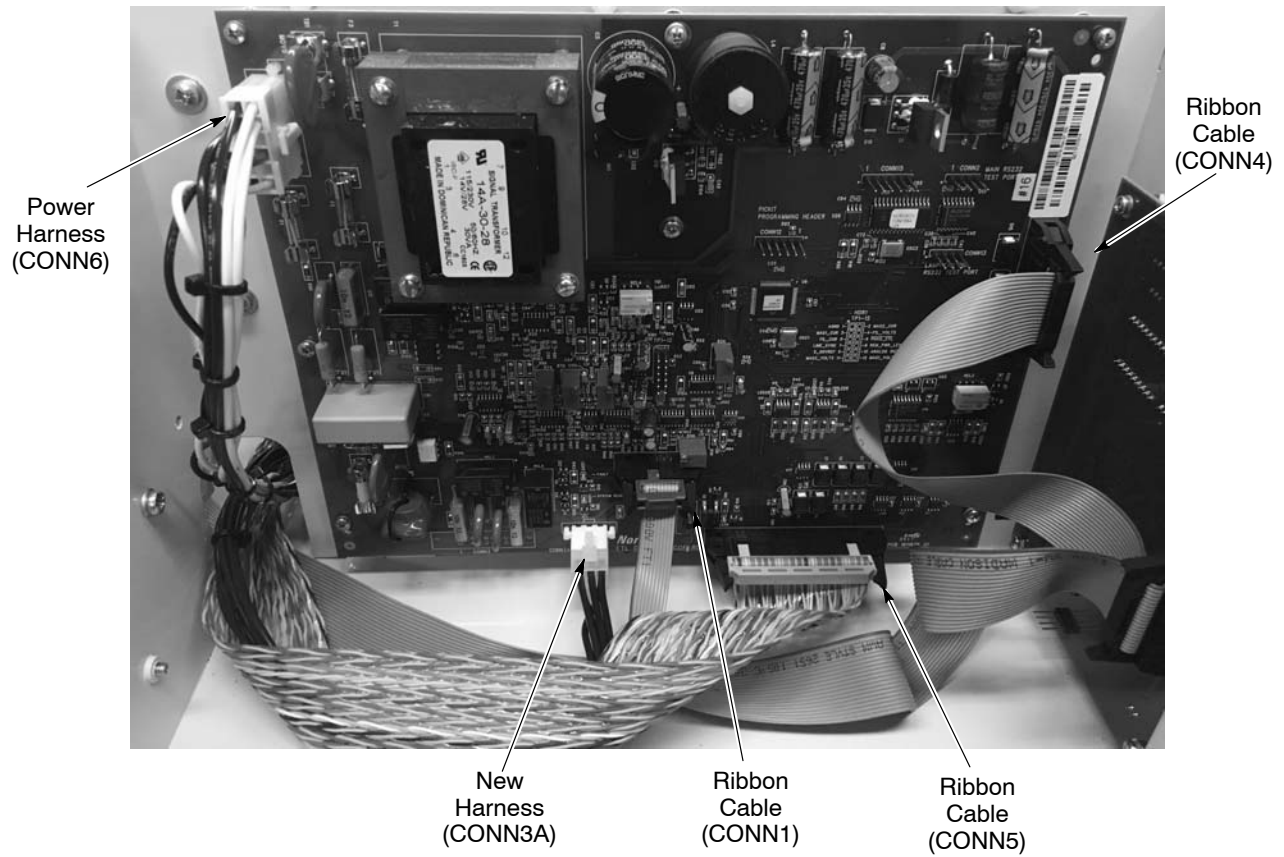

Figure 9 Installing New Control Board
1. See Figure 9. Install the new main control board to the cabinet wall using the six M3 screws and washers.